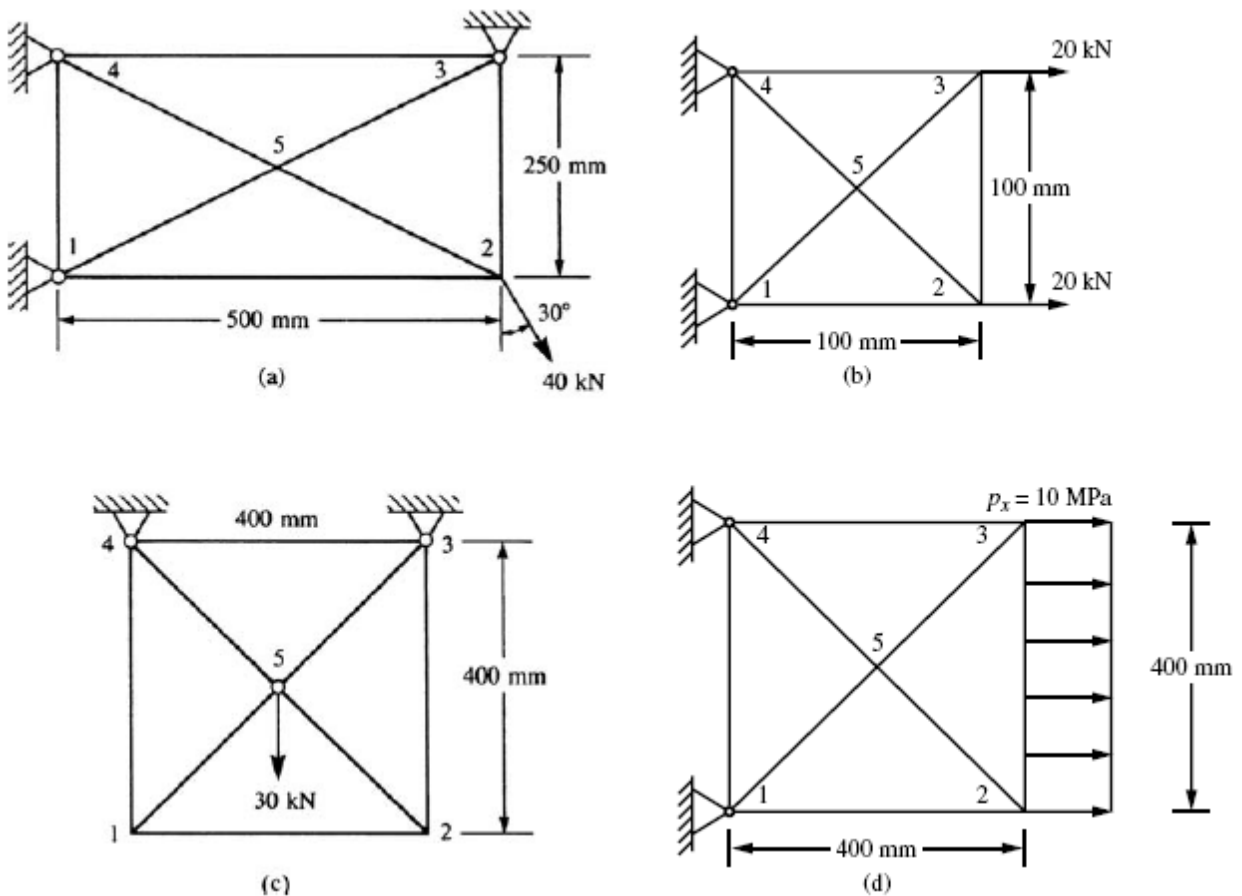

Figure P8.15
15. Determine the nodal displacements and the element stresses, including principal stresses, due to the loads shown for the thin plates in **Figure P8.15**. Use $E = 210 \text{ GPa}$, $\nu = 0.3$, and $t = 5 \text{ mm}$. Assume plane stress conditions apply. The recommended discretized plates are shown in the figures.